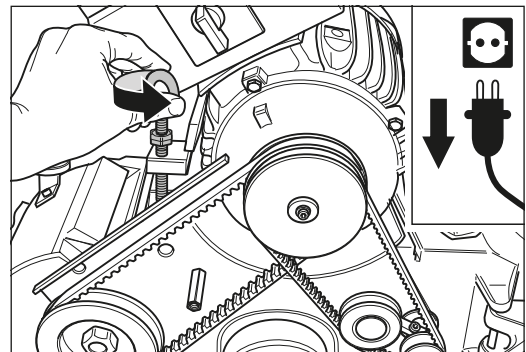

Fig. 88 Release the tension of the V-belts by turning the eye bolt at the motor counterclockwise.
- 5 Release the tension of the V-belts by turning the eye bolt at the motor counterclockwise (fig. 88).